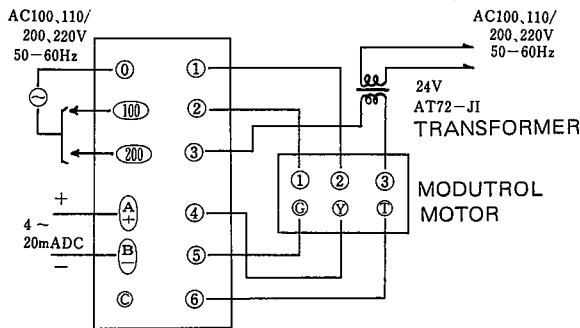

Figure 2
- (1) All wiring must conform to local codes, ordinances, and practices.
- (2) Connect wires in accordance with the terminal symbols for connections. Use pressed terminals. (See Figs. 2 and 3 for wiring connections.)
- (3) 6 wires are connected at terminals from 1 to 6 between the RN796A and modutrol motor. Be sure to connect them properly.
- (4) Connect 100 V or 200 V power supply voltage. For 100/110 V power supply voltage, use 0-100 terminals. For 200/220 V, use 0-200 terminals.
- (5) The wirings of the controller RN796A and the modutrol motor must be separated at a distance more than 50 cm from line voltage wires. These wires must not be run in the same conduit. This caution also applies to the wiring in the panel.